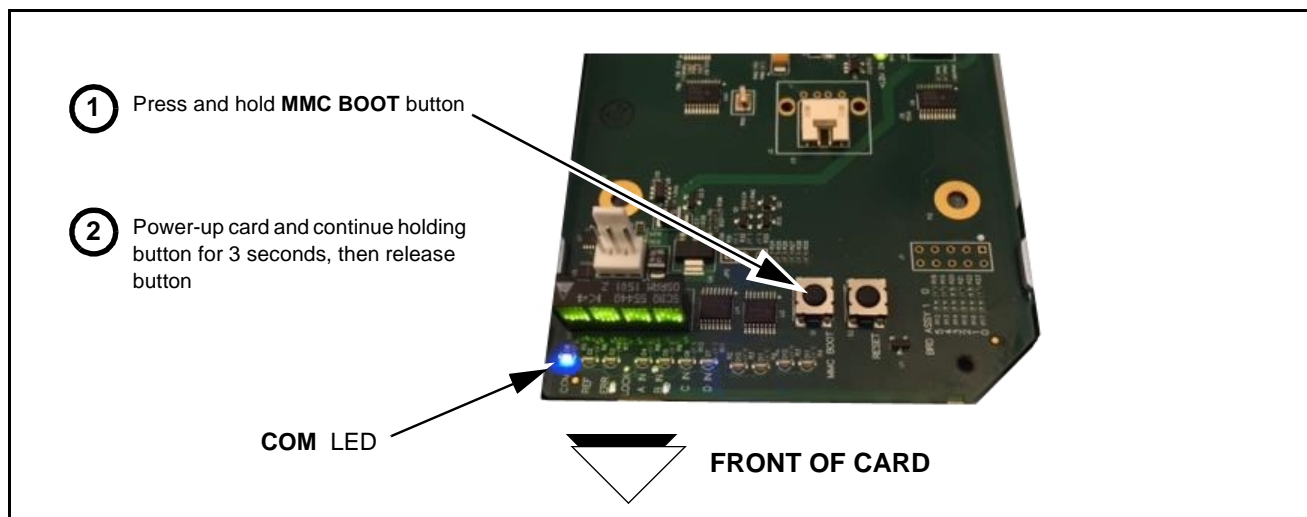

Figure 3-11 MMC Boot Button
2. (See Figure 3-11.) With card powered-down, locate the **MMC BOOT** button on the card. Proceed as shown in picture.